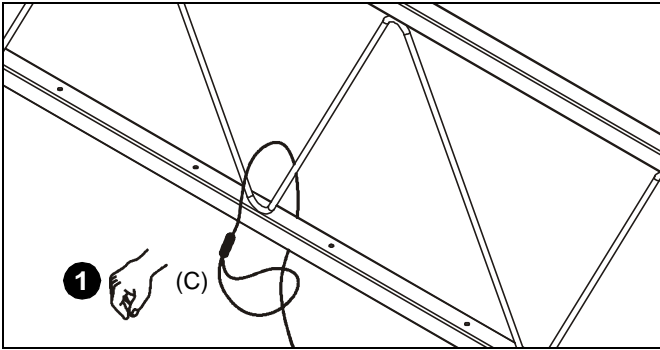

Figure 7
- Route end of cable (C) over truss at marked cable anchor support location and then through cable loop. (See Figure 7) Repeat for remaining support locations.